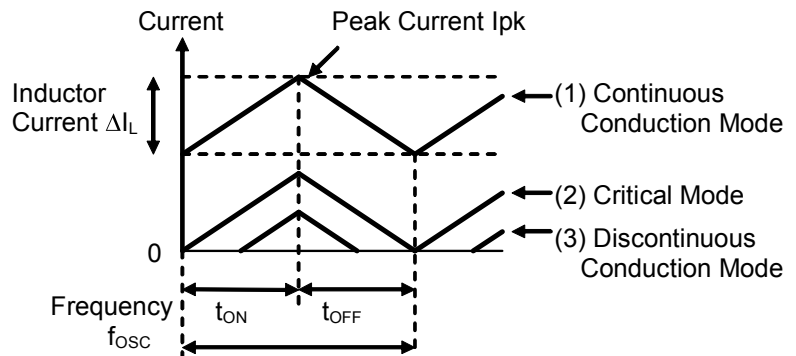

Fig. 9. Inductor Current State Transition
Ideally, the value of L is set so that inductance current is in continuous conduction mode. However, as the load current decreases, the current waveform changes from (1) CCM: Continuous Conduction Mode → (2) Critical Mode → (3) DCM: Discontinuous Conduction Mode (Fig. 9.).